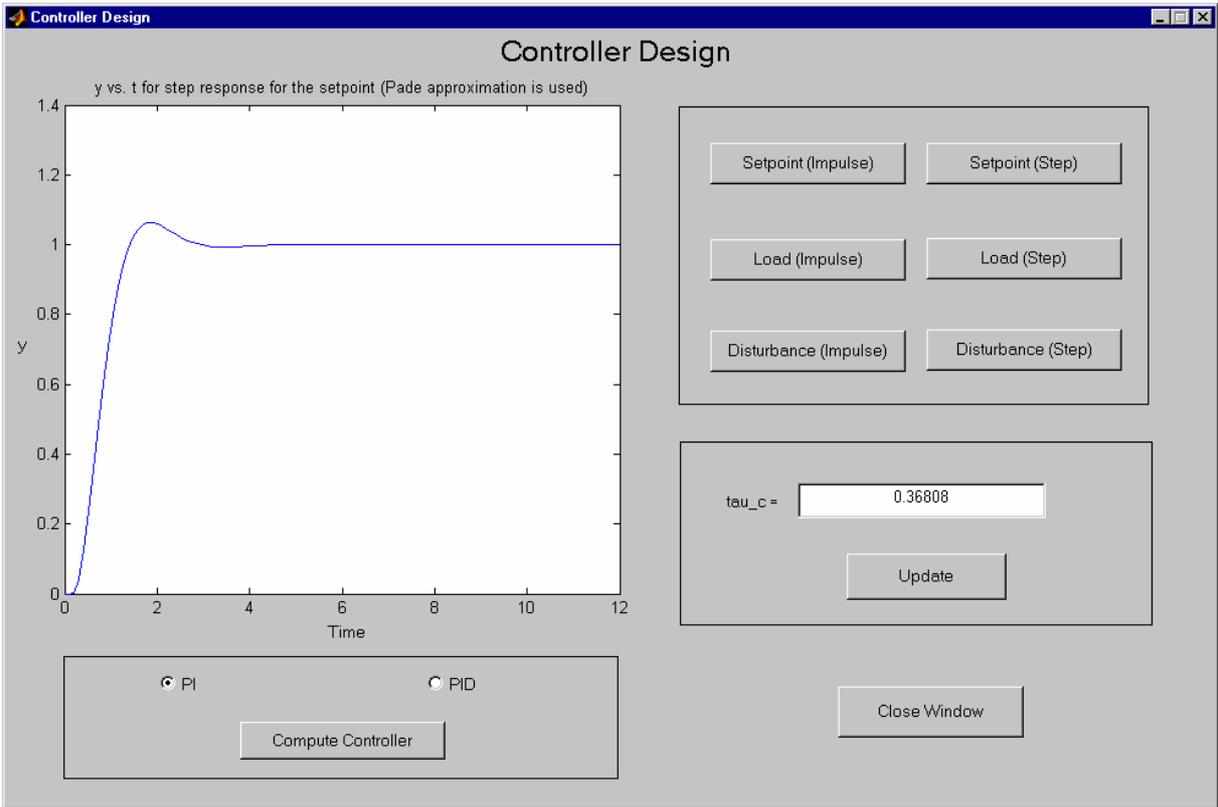

Figure 5: Step response for the setpoint for a PI controller
Now that the controller has been computed, the closed-loop performance can be evaluated. There are six buttons that allow to compute the response to step as well as impulse changes in the setpoint, the load disturbance, and the output disturbance. The corresponding response will also be displayed in the window (Figure 5). Values for the various error criteria (IAE, ISE, ITAE) as well as for the evaluation of the amount of control energy (TV) are reported on the MATLAB workspace for each response of the system.